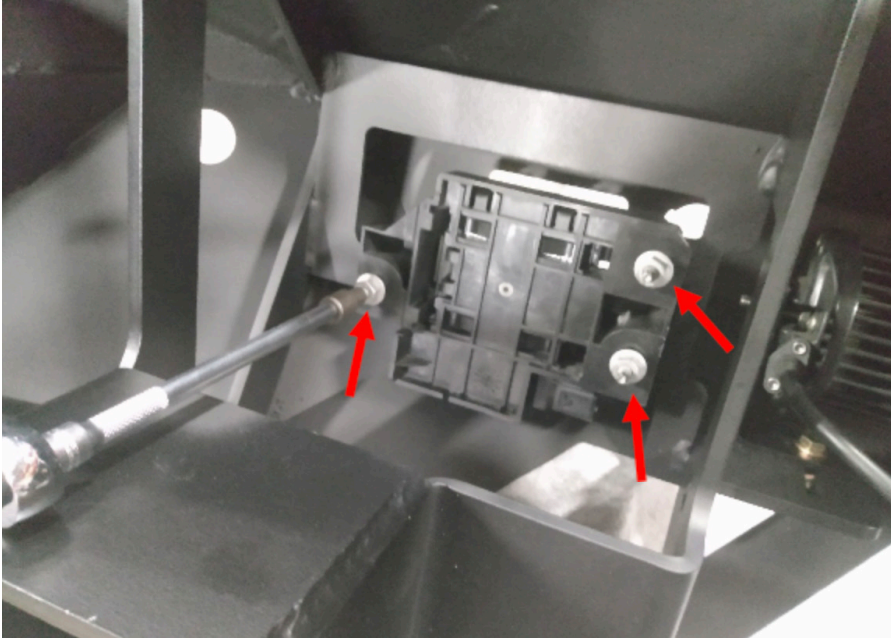

Figure 25
21. Using an E6 socket install the ACC bracket with sensor into the bumper. Figure 25